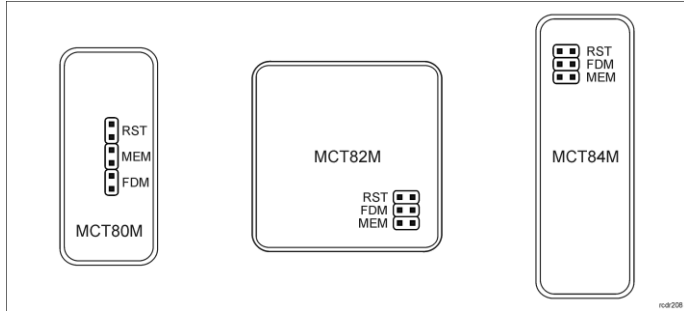

Fig. 4 Service contacts
Note: Remote configuration of device from VISO v2 software is possible only if jumper is placed on MEM contacts (fig. 4). If the jumper is removed then such configuration is blocked. In case of factory new device, jumper is placed on MEM contacts.
In RACS 5 v2 system the reader can be installed at site without previous configuration. According to AN006 application note, its address and other settings can be configured from VISO v2 management software and during such configuration the access to its service contacts (fig. 4) is not required.
2. Remove jumper from MEM contacts (fig. 4) if it is placed there.
2. Place jumper on FDM contacts (fig. 4).